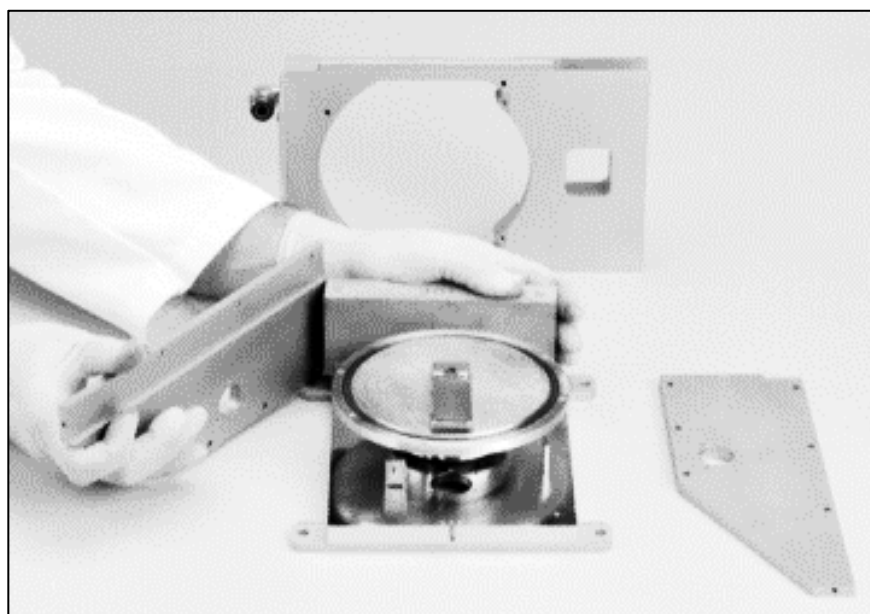

Figure 5-11. Correct Technique for Detaching Pole Pieces from Magnet and Base Plate
Step 15: Remove the pole pieces from the remainder of the source. To do so, grasp the permanent magnet with one hand and the angled front end of the pole piece with the other, as shown in Figure 5-11. Then swing the front of the pole piece away from the source and carefully separate it from the rear edge of the magnet, rocking it slowly up and down if necessary to break it free from the magnet's very strong field.